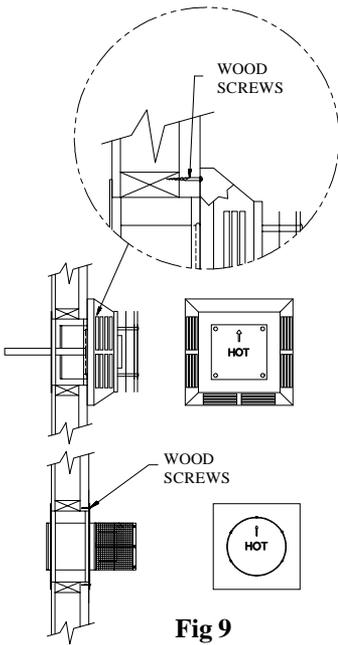

Fig 9
Step 4. For a Square Horizontal Vent Termination, place the vent cap in the center of the square hole and attach to the exterior wall with the four wood screws provided. Before attaching the Vent Termination to the exterior wall, run a bead of non-hardening sealant around it's outside edges, so as to make a seal between it and the wall. If you are using a Round Horizontal Vent Termination, place an exterior Wall Firestop over the square hole. Run a bead of non-hardening sealant around the edges of the Wall Firestop, and attach the Wall Firestop to the wall with the four wood screws provided. The arrow on the vent cap should be pointing up. Insure that proper clearances to combustibile materials are maintained. (Fig 9)